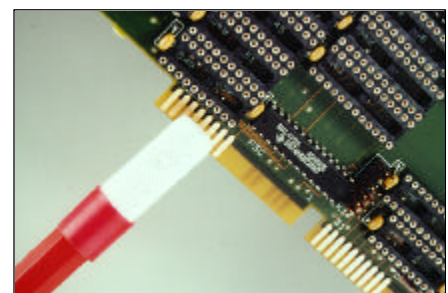

Figure 7: Sample plating anodes shown with fabric wrapping.
3. Connect the plating probe to the power supply (+) or red jack. (See Figure 7).